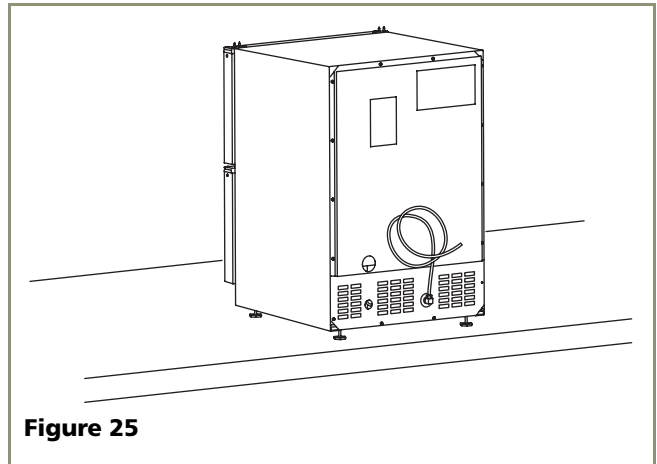

Figure 25
- Connect sufficient tubing to the unit so that tubing may be looped, allowing the unit to be removed for cleaning and servicing (see **Figure 25**). However, make certain that the tubing is not pinched or damaged during installation.
3. Carefully bend the water supply line into position and connect the line to the solenoid valve (see **Figure 25**). Avoid kinking the water supply line.
4. Allow extra water supply line length to provide slack for easy removal from the recessed area (see **Figure 25**). This will also safeguard against kinking the line.